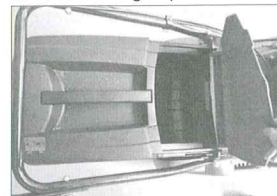
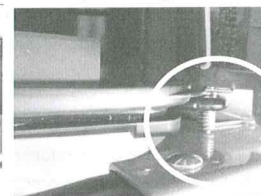
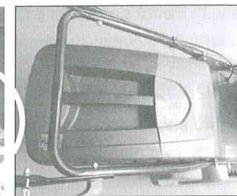

Fig. 2F
Fig. 2G
Fig.2H
1. To fit: raise the rear cover and hitch the grass catcher on the rear of mower. (Fig. 2F, Fig.2G, Fig. 2H)